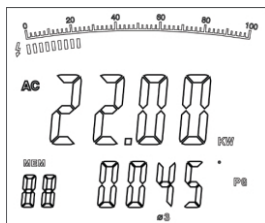

Figure 11
3. After recording the current power measurement value of the second phase, then press **SEL** again to choose **03**. The double display shows the value of active power KW and PG of the third phase, as in figure 11.